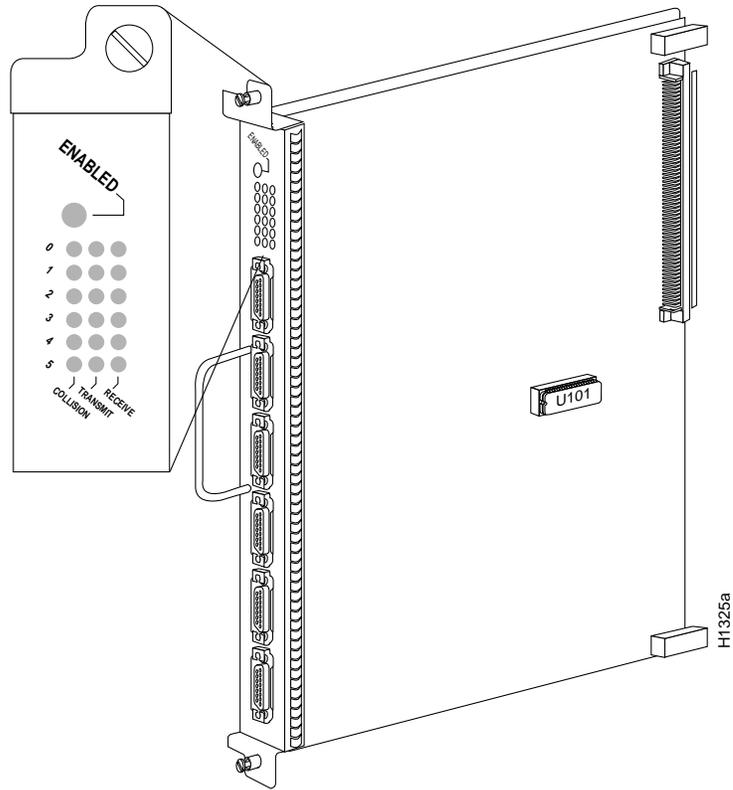

Figure 3 Ethernet Interface Processor (EIP)
Figure 3 shows a 6-port EIP as it is shipped from the factory, with the standard slide-type locks on all six ports.
- Step 3:** Observe the EIP LEDs (shown in Figure 3) to check the state of the interfaces. The LEDs should light to indicate traffic or detected activity on each port that has been brought up.